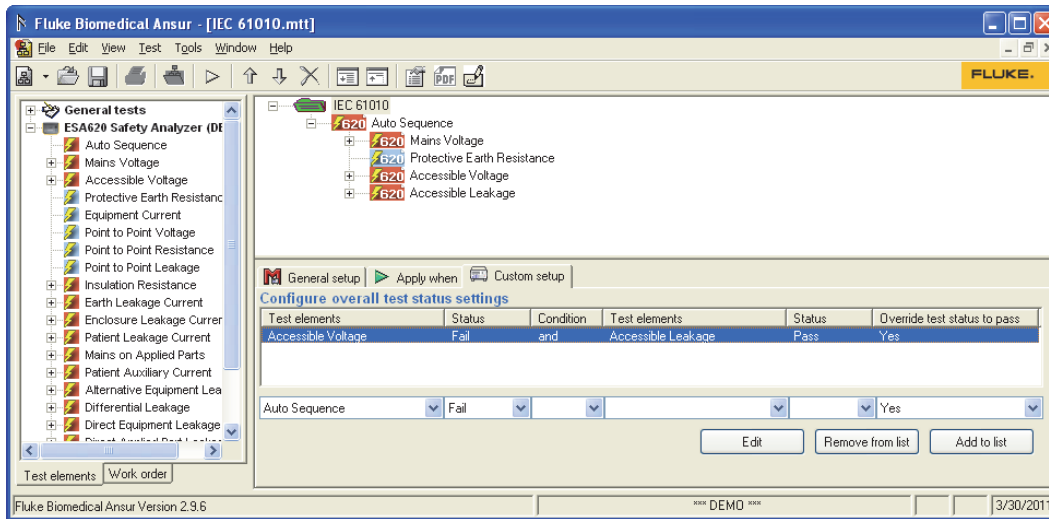

Figure 3-49. A Test Status Container in the Test Template
- Release the left mouse button. A copy of the test status container shows in the test template window. See Figure 3-49.